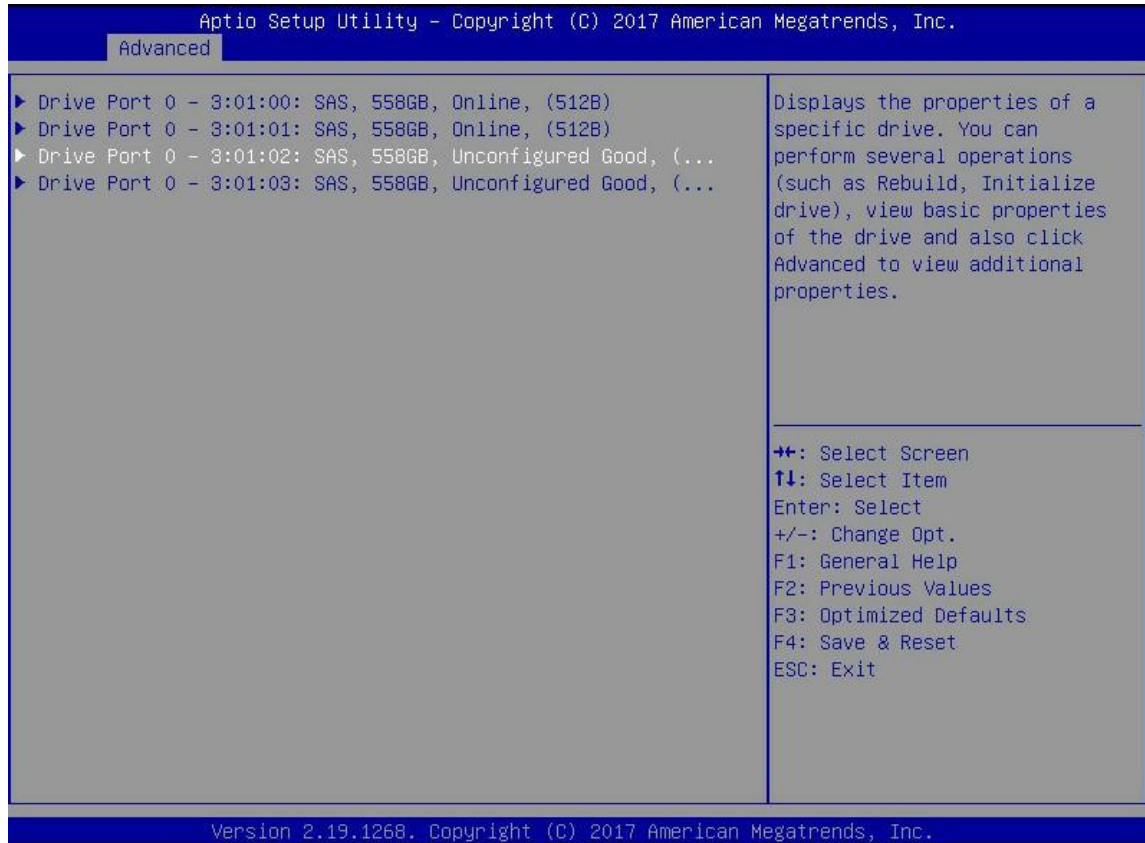

Figure 6-48
b) Enter the interface shown in Figure 6-48, select the disk to be initialized, and press enter.